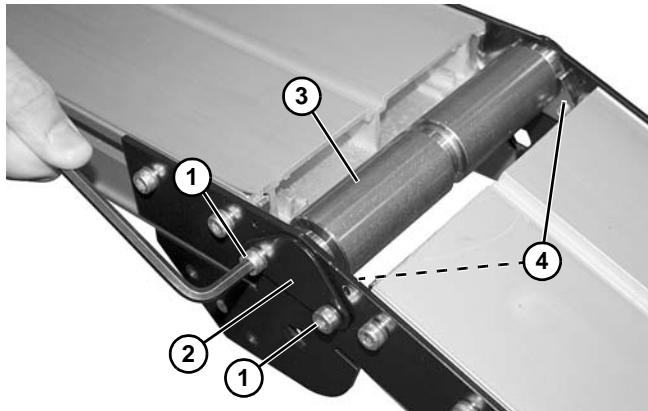

Figure 111
3. Remove two screws (Figure 111, item 1) and remove bearing cover (Figure 111, item 2) on both sides of knuckle.
4. Slide idler pulley (Figure 111, item 3) to one side of the conveyor, remove bearing housings (Figure 111, item 4), and then remove idler pulley from knuckle plates.